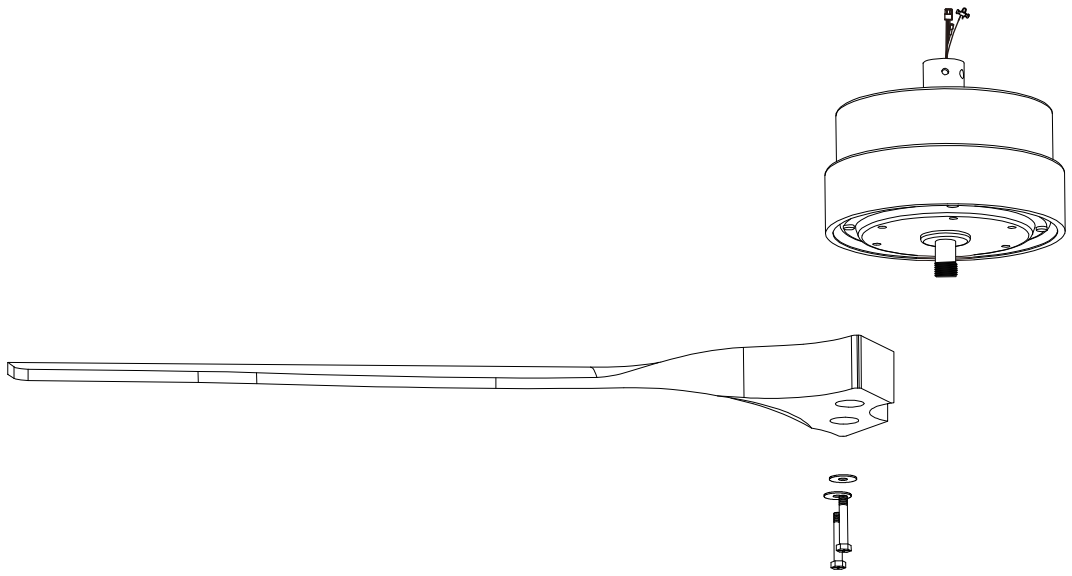

Figure 4
3. Install the fan blades and blade decorative plate by aligning the holes on the blade and plate with the holes on the fan motor assembly set by the provided set screws. (Figure 4)